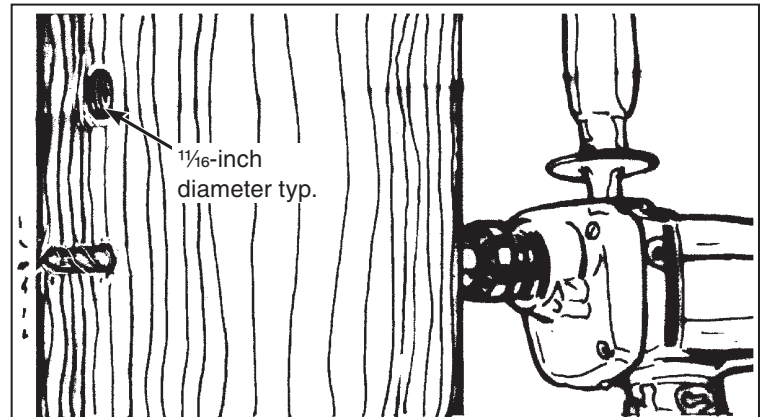

Figure 2. Drill the holes for the switch-mounting bracket.
STEP 1. Drill two $\frac{1}{8}$ -inch diameter holes through the utility pole at the desired height for mounting the switch. See Figure 2. Refer to the erection drawing.